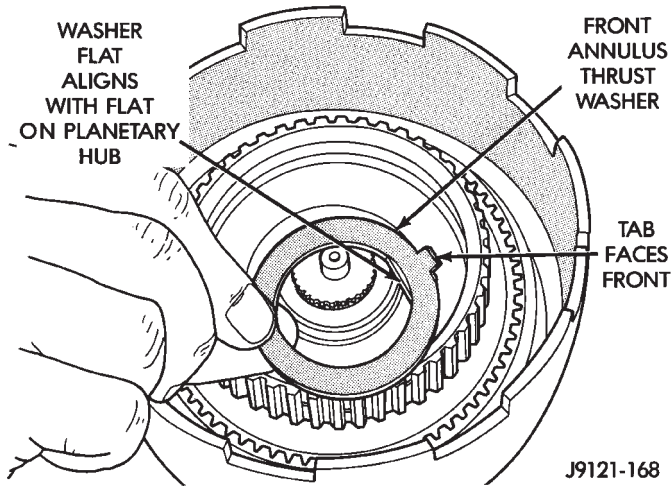

Fig. 164 Installing Front Annulus Thrust Washer
(19) Install thrust washer in front annulus (Fig. 164). **Align flat on washer with flat on planetary hub. Also be sure washer tab is facing up.**